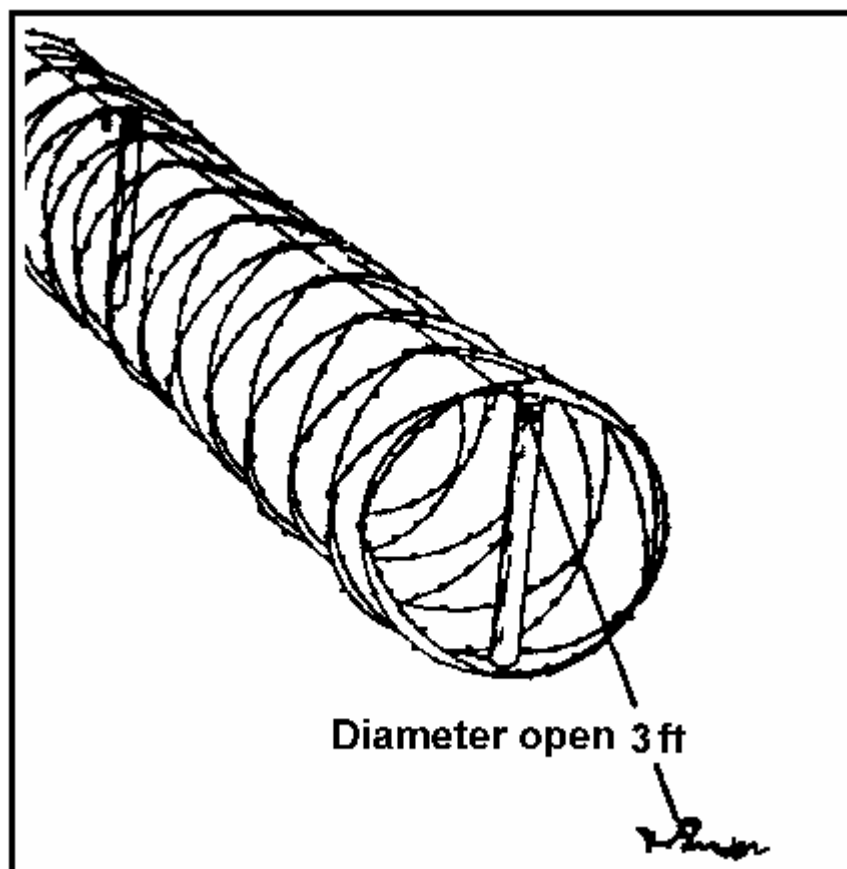

Figure 052-195-1020-5
- (1) Stretch a strand of barbed wire along the top of the extended concertina.
- (2) Use a post tie to tie the barbed wire to each picket (Figure 052-195-1020-5).